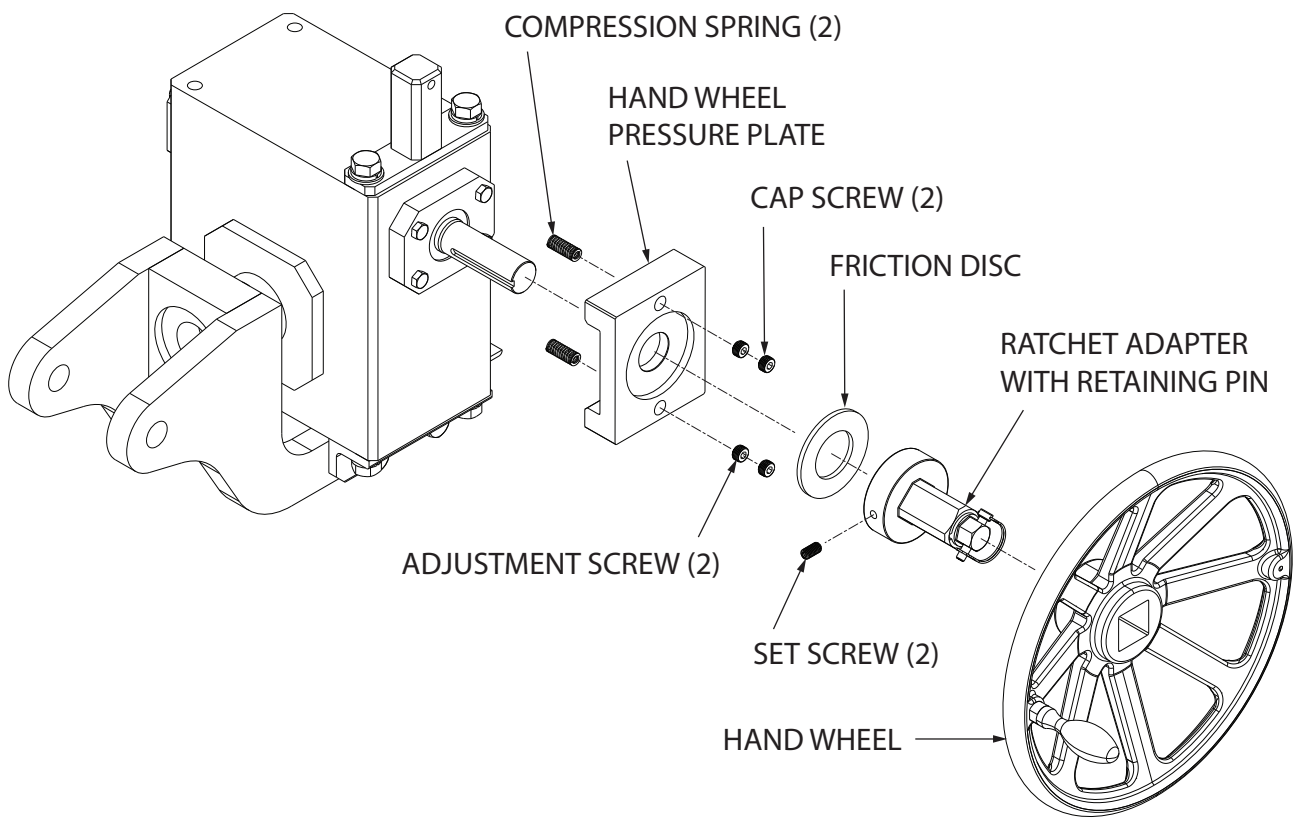

Figure 4.5-1
The inspection and maintenance of the roll operation friction disc clutch (Figure 4.5-1), should be made before each use. All four (4) securing pins (IPB Fig. 1 - Item 17 and Item 19) of the cradle should be installed to prevent cradle rotation. Install wood blocks at the free end of the jack screw tube brace to maintain the jack current position. Then free the jack screw nut assembly to travel by removing the two (2) connecting pins (IPB Fig. 2 - Item 41 and 42). Rotate the jack screw hand wheel one (1) to two (2) turns and note the amount of force required. The force required to overcome the friction clutch and turn the hand wheel should be approximately 10 to 15 lbs. (45 to 67 N). Inspection and adjustment of the friction clutch assembly is required if there is little or no resistance felt when the hand wheel is rotated.